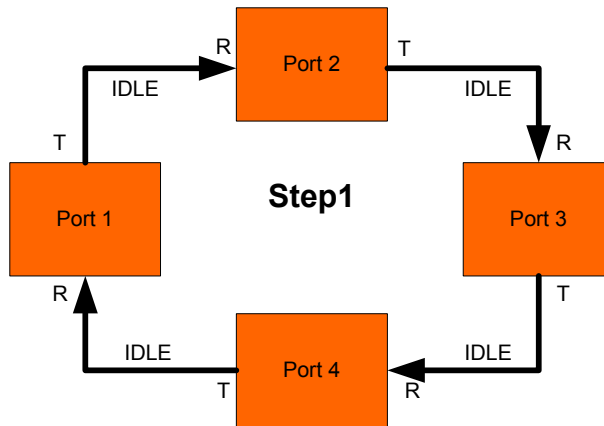

Figure 25 Arbitration Step 1
involved are discussed next, using an example of a loop containing four ports with one port arbitrating as shown in Figure 25.
Step 1 of the arbitration process, shown in Figure 25, shows a loop which is filled with idles and all ports in the monitoring status. The current fill word on all the ports is IDLE and thus received IDLEs are substituted with the current fill word which is IDLE on all the ports.